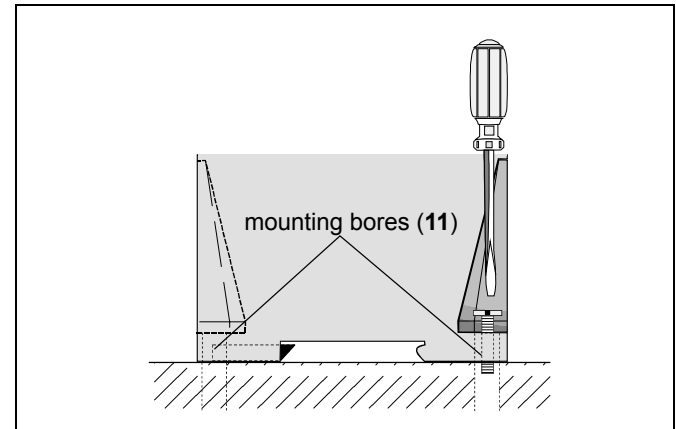

Fig. 5-2: Mounting with two M4 screws
2. Fasten the device with two suitable M4 screws (s. fig. 5-2).